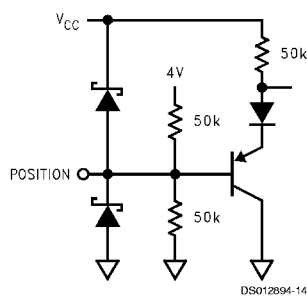

FIGURE 8.
See *Figure 8* through *Figure 13* for input and output schematics.
**Pin 1. POSITION:** A 0V to 4V DC voltage applied to this pin sets pin 13 (DC OUT) output voltage from 3.65V to 4.05V. See *Figure 8* for the input schematic.